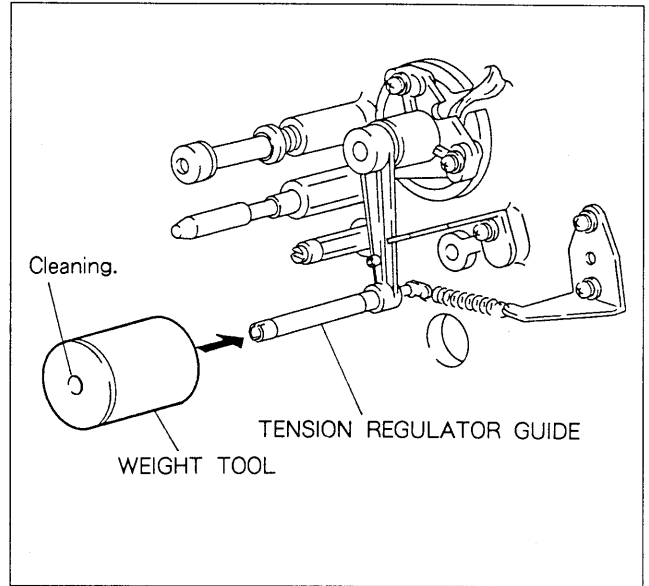

Fig. 9-2-10. Tension Amplifier Offset Check (2)
- (1) Clean the mounting hole of the weight tool shown in Fig. 9-2-10 with cleaning piece.
- (2) Fix the weight tool to the tension regulator guide with care not to scratch the guide section.
- (3) Move the weight lightly right and left and stop it. Check that the voltage at TP22 on the SV-90 board is within the specification.